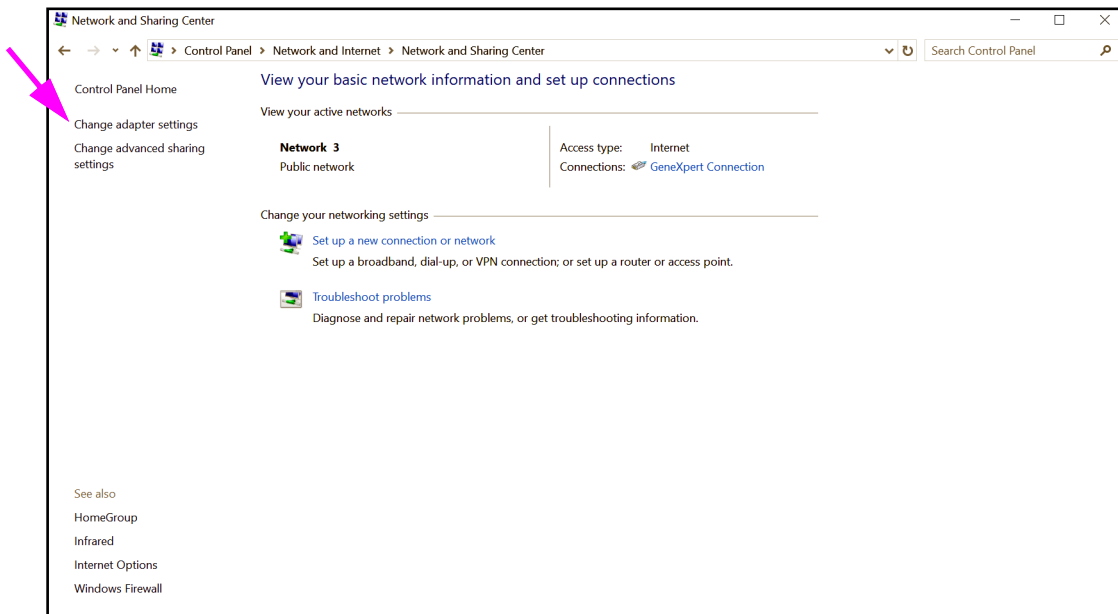

Figure 2-25. Network and Sharing Center Screen
5. Click the **Change Time Zone...** button. The Time Zone Settings dialog box appears. See Figure 2-25.